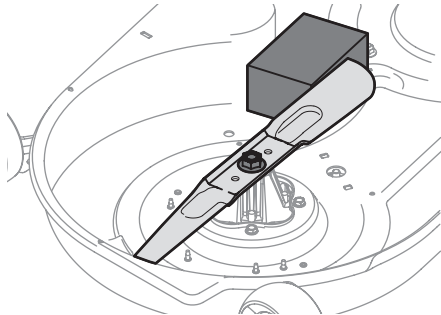

Figure 46
2. Place a block of wood between the deck housing baffle and the cutting blade to act as a stabilizer. See Figure 46.
3. Place a block of wood between the deck housing baffle and the cutting blade to act as a stabilizer. See Figure 46 on page 31.